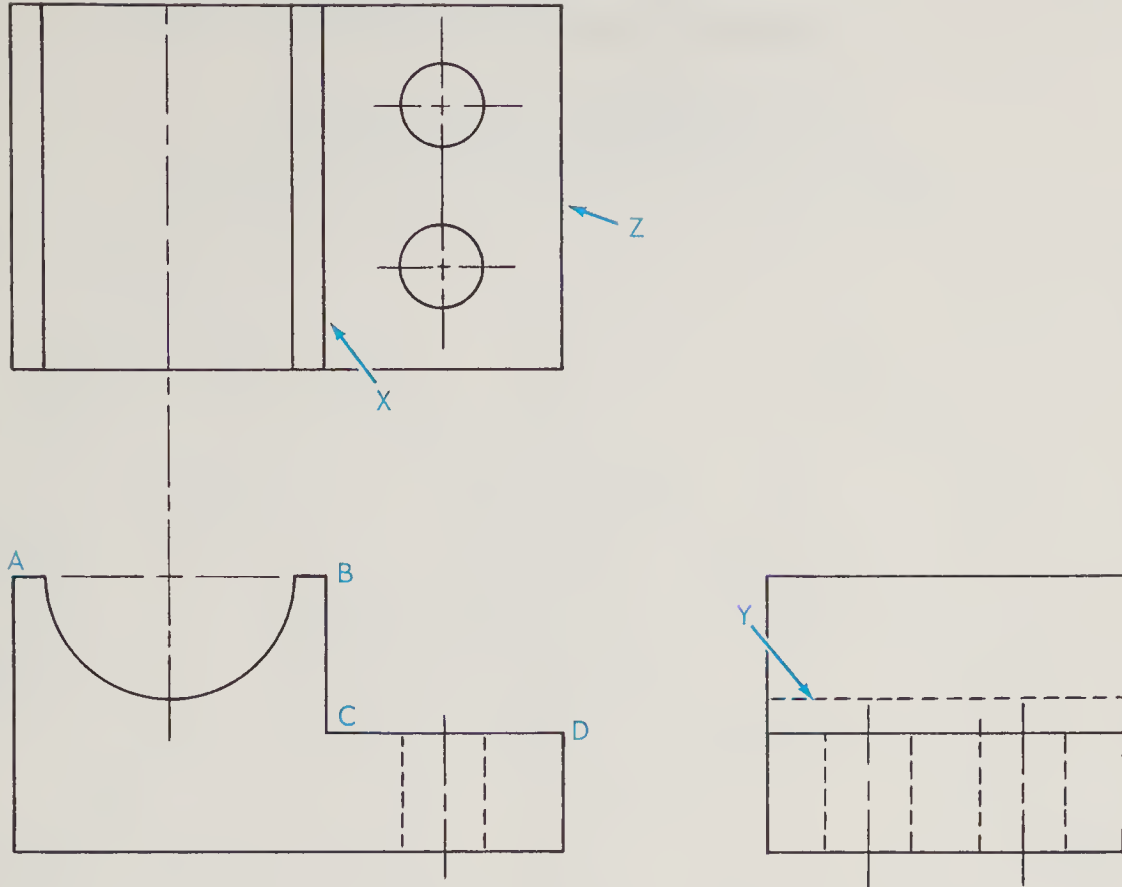

Fig. 5-6. Visualizing an object from an orthographic projection.
1. Scan briefly all views shown, Fig. 5-6.
3. Move from the front view to the other views and look for lines that describe the intersections of surfaces (line X in the top view, Fig. 5-6), the limits of a surface (line Y in side view) or the edge view of a surface (line Z, top view).